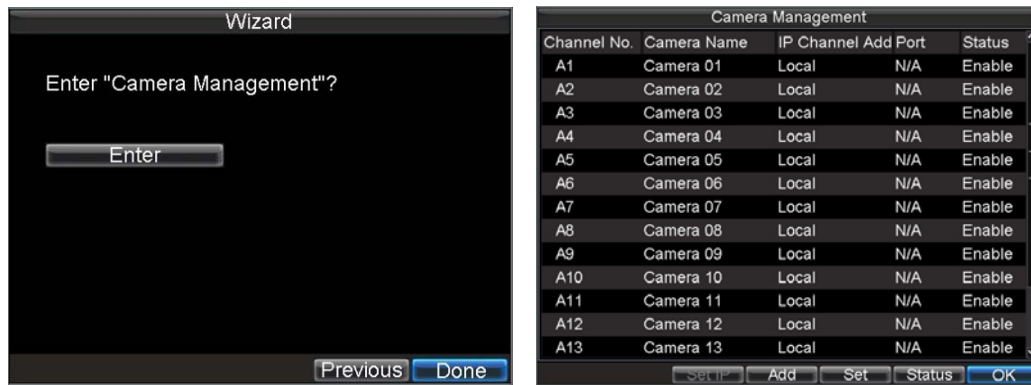

Figure 13. Camera Management
- 2) Click the Enter button to enter the **Camera Management** window, shown in Figure 13. if does not need to configure IP cameras, click the Done button to finish the settings; if it needs to configure the IP cameras, click Enter button to enter the **Camera Management** window, shown in Figure 13.